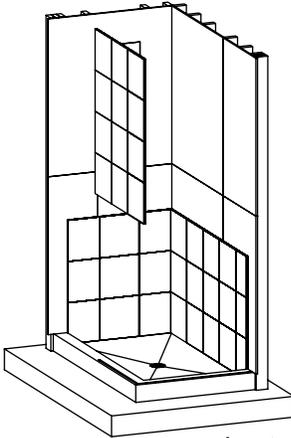

figure 21
5. Continue to dry fit the top panels starting with panel 1T (fig. 21). Place the top panel above the bottom panel and match the space between the panels with the rest of the grout lines on the panel. Use spacers if necessary.. Finish the remaining panels in this order: 2T, 3T.